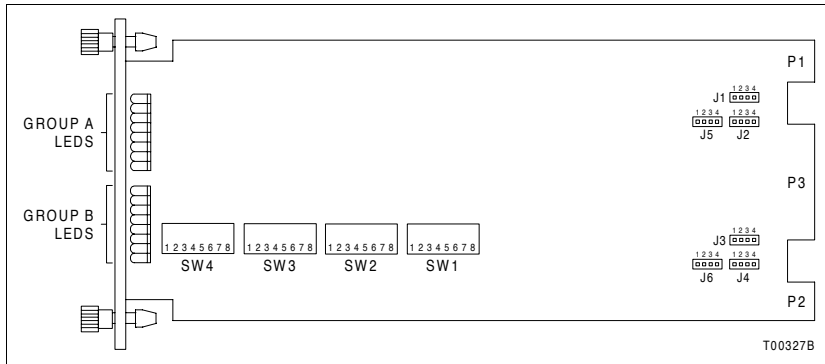

Figure PR6-1. INNIS01 Layout
This procedure describes the steps required to set up the INNIS01 module of the INICI12 interface (Fig. PR6-1). Both dipswitches and jumpers must be set before putting the module into operation.
- 1. Set the node address with switch SW1 (Fig. PR6-1). The address must be unique. Valid node addresses are from one to 250. Table PR6-1 provides some example node address settings.